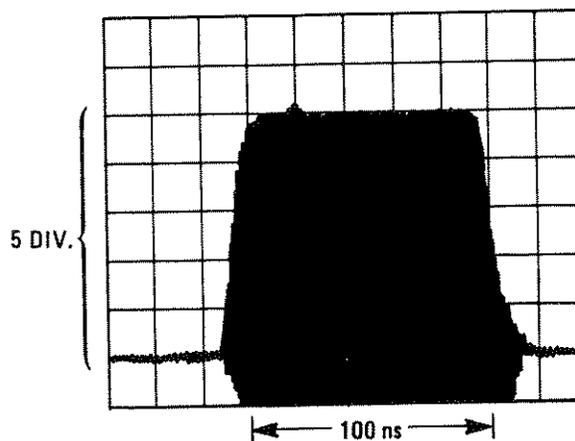

Figure 4-13. Overshoot and Ringing Measurement Display
7. Adjust the sweep delay on the oscilloscope to center the modulated 70 MHz RF pulse. Adjust the vertical controls for a 5 division peak pulse display. See Figure 4-13.